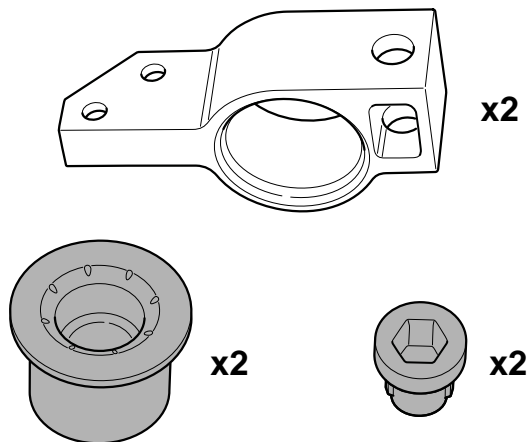
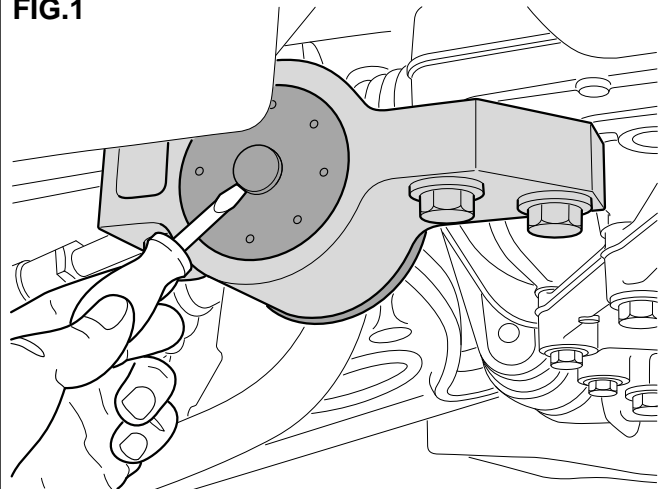

FIG.1
FIG.2
7. Remove the small centre bush 60316A from the extrusion assembly (refer Fig.1) and press onto the hex spigot using a small amount of the grease supplied.
- Note: Failure to release the excess air will make the arm more difficult to re-install as the mounting holes will not easily align. (refer FIG 1 + FIG2).**